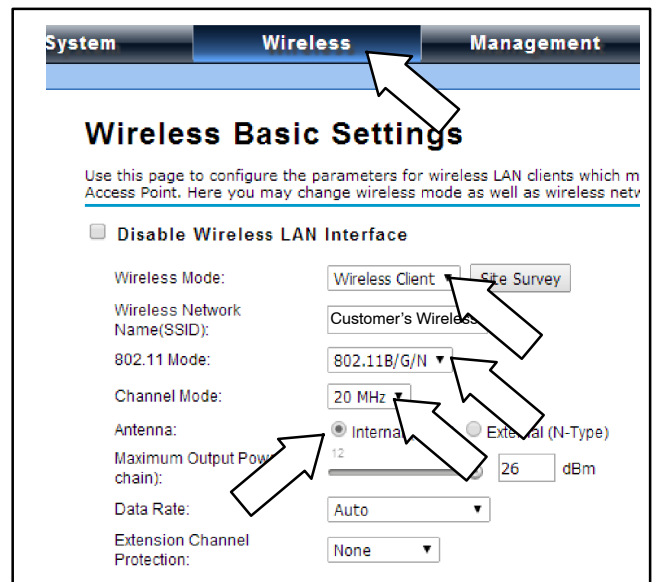

Figure 14 Wireless Basic Settings
- 9.4 Click Wireless tab. See Figure 14.